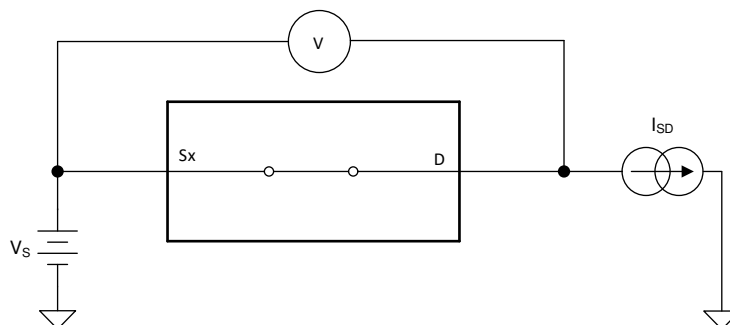

Figure 7-1. On-Resistance Measurement Setup
The on-resistance of a device is the ohmic resistance between the source (Sx) and drain (D) pins of the device. The on-resistance varies with input voltage and supply voltage. The symbol R_{ON} is used to denote on-resistance. The measurement setup used to measure R_{ON} is shown in Figure 7-1. Voltage (V) and current (I_{SD}) are measured using this setup, and R_{ON} is computed with $R_{ON} = V / I_{SD}$: